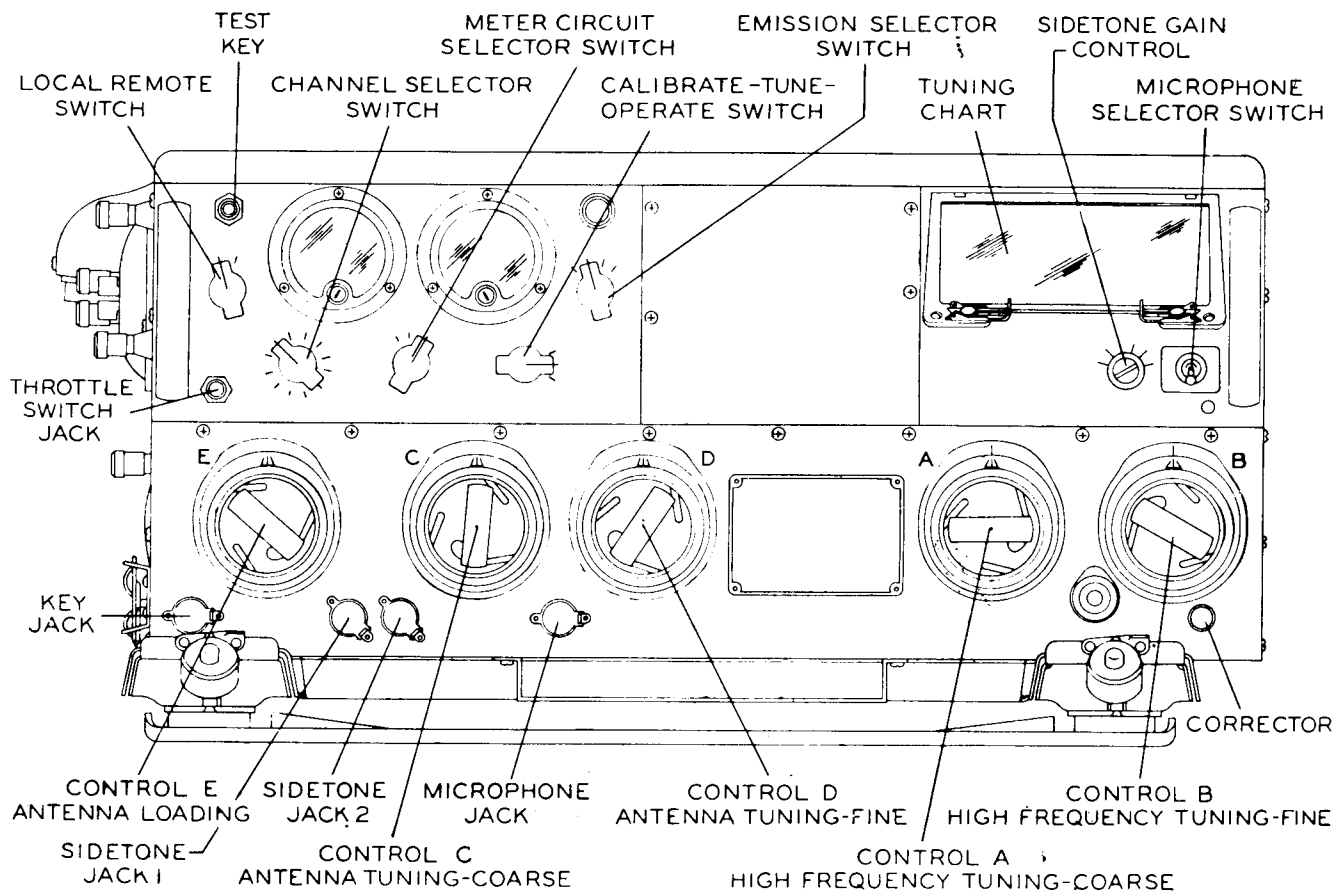

Figure 3-1. Type T-47/ART-13 Transmitter Controls
a. The high frequency control knobs are marked "A", "B", "C", "D", and "E", and are located along the lower part of the front panel. Refer to figure 3-1. These controls are preset for one channel by loosening locking bar in center of knob, rotating control either direction to desired setting, (but approaching final setting clockwise), then tightening the locking bar. The CHANNEL switch can then be turned to another channel, and after motor stops, all controls can be preset on another frequency. The Autotune controls are adjusted most satisfactorily by rotating the dials approximately one-eighth turn each side of the chosen dial reading in such a manner as to approach the final setting in a clockwise direction.